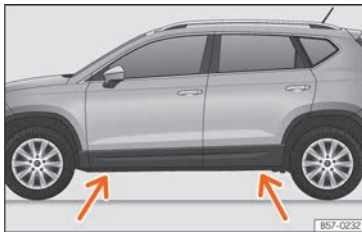

Fig. 40 Jack position points.
- Find the support point on the strut (sunken area) closest to the wheel to be changed »» **Fig. 40**.